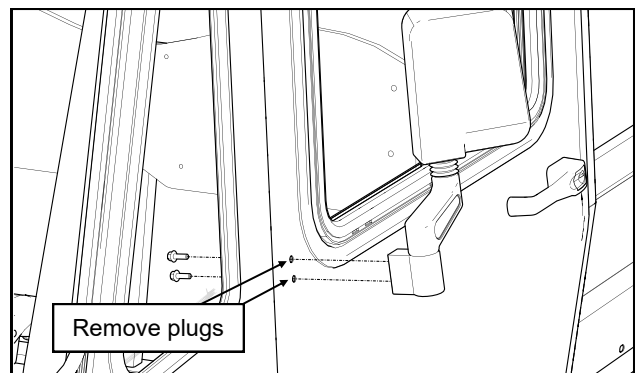

Fig. 3.1
- 3.1 Remove rubber plugs from doors in location shown in figure 3.1.
- 3.2 Install the driver side mirror to driver's side door of the cab through holes where dome plugs were removed, using 1/4-20 x 3/4" long screws. See figure 3.1.